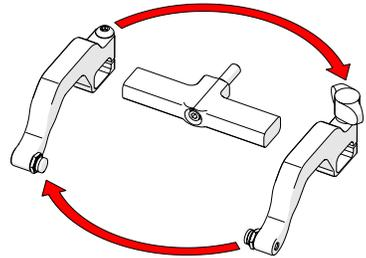

Fig. 55 - Reverse position around yoke
4. Position the removed arms on the opposite sides of the yoke (Fig. 55).